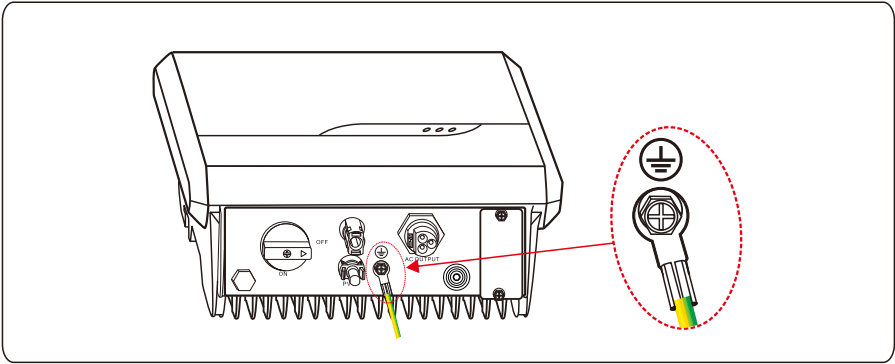

Figure 5.4 Secure the PGND cable
Step 4 Secure the PGND cable (done by step 1 & 2) using the ground screw and tighten the screw to a torque of 1.2 N·m using a socket wrench, as shown in Figure 5.4.